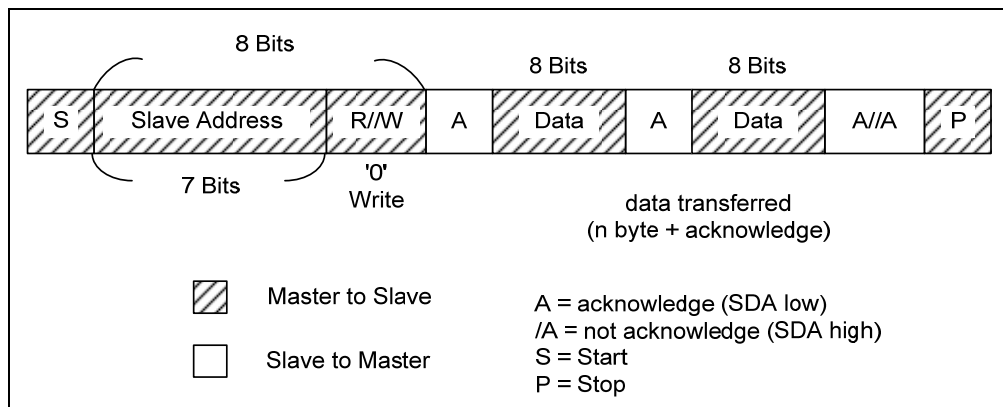
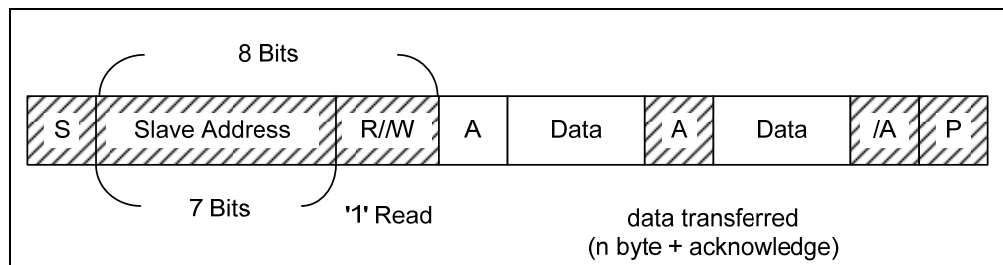

Figure 6-19a Master-Transmitter Transmits to Slave-Receiver with 7-Bit Slave Address
Figure 6-19b Master-Receiver Reads from Slave-Transmitter with 7-Bit Slave Address
Master-transmitter transmits to Slave-receiver. The transfer direction is not changed. Master reads Slave immediately after the first byte. At the moment of the first acknowledge, the Master-transmitter becomes a Master-receiver and the Slave-receiver becomes a Slave-transmitter. This first acknowledge is still generated by the Slave. The STOP condition is generated by the Master, which has previously sent a not-acknowledge (A). The difference between Master-transmitter and Master-receiver is only with their in R/W bit. If the R/W bit is “0”, the Master device becomes a transmitter. Otherwise, the Master device turns to be a receiver (R/W bit is “1”). The Master-transmitter operation is illustrated in Figure 6-19a, and that of Master-receiver is shown in “Figure 6-19b below.